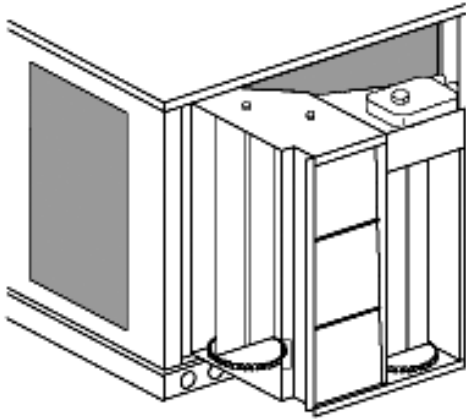

Fig. 4- Economizer Positioned for Installation in Unit
6. Set the Economizer upright as shown in Fig. 4.